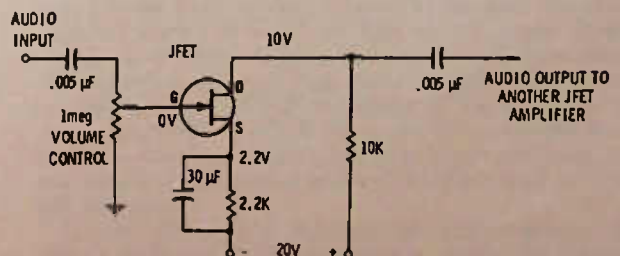

Fig. 16-19. Circuit for Questions 8 and 9.
8. Fig. 16-19 shows an audio amplifier circuit using a JFET. If you measured between the source and drain with a voltmeter it would read
9. The JFET in Fig. 16-19, judging by the polarity of the voltages, is